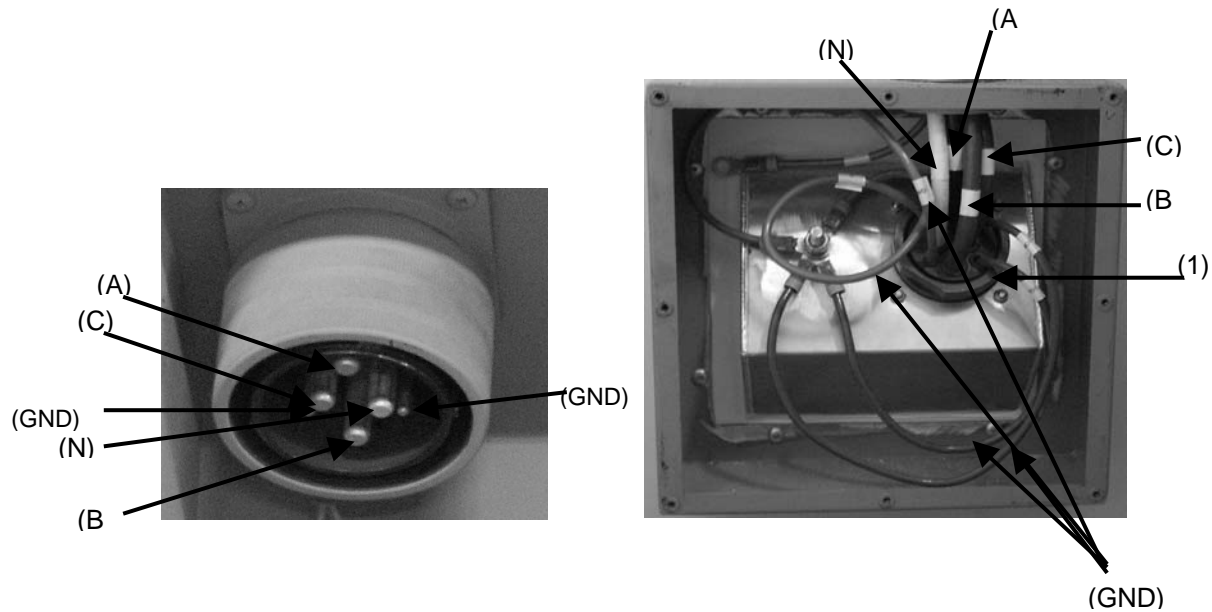

Figure 4-34. Power Input Receptacle front and rear view.
4. Using channel lock pliers (WP 0058 00, SATS Base Tool Component List), remove retaining nut (1) (Fig. 4-34).